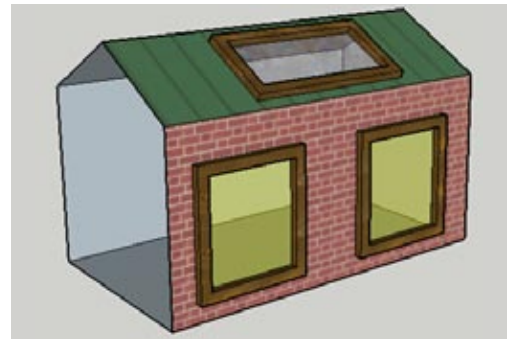

Figure 8-41
6. Adjust the Opacity slider for the stone material. Now you can see through the skylight, while still seeing a faint version of the stone pattern (Figure 8-41).